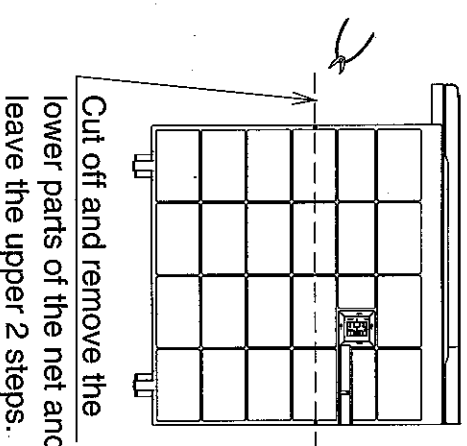

Figure 9
9. At the places where snow enters into the air inlet, the net at the rear side will accelerate snow accumulation. Moreover, the snow only around the heat exchanger may be melted even by defrosting and the snow stuck to the net may not be defrosted. Therefore, install after cutting the net as shown in figure 9.